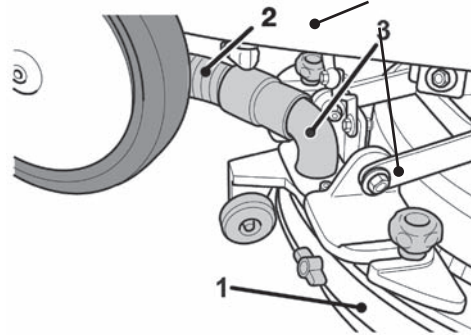

Fig 20
To clean the squeegee correctly (1) it is necessary to remove it as follows (Fig 20):